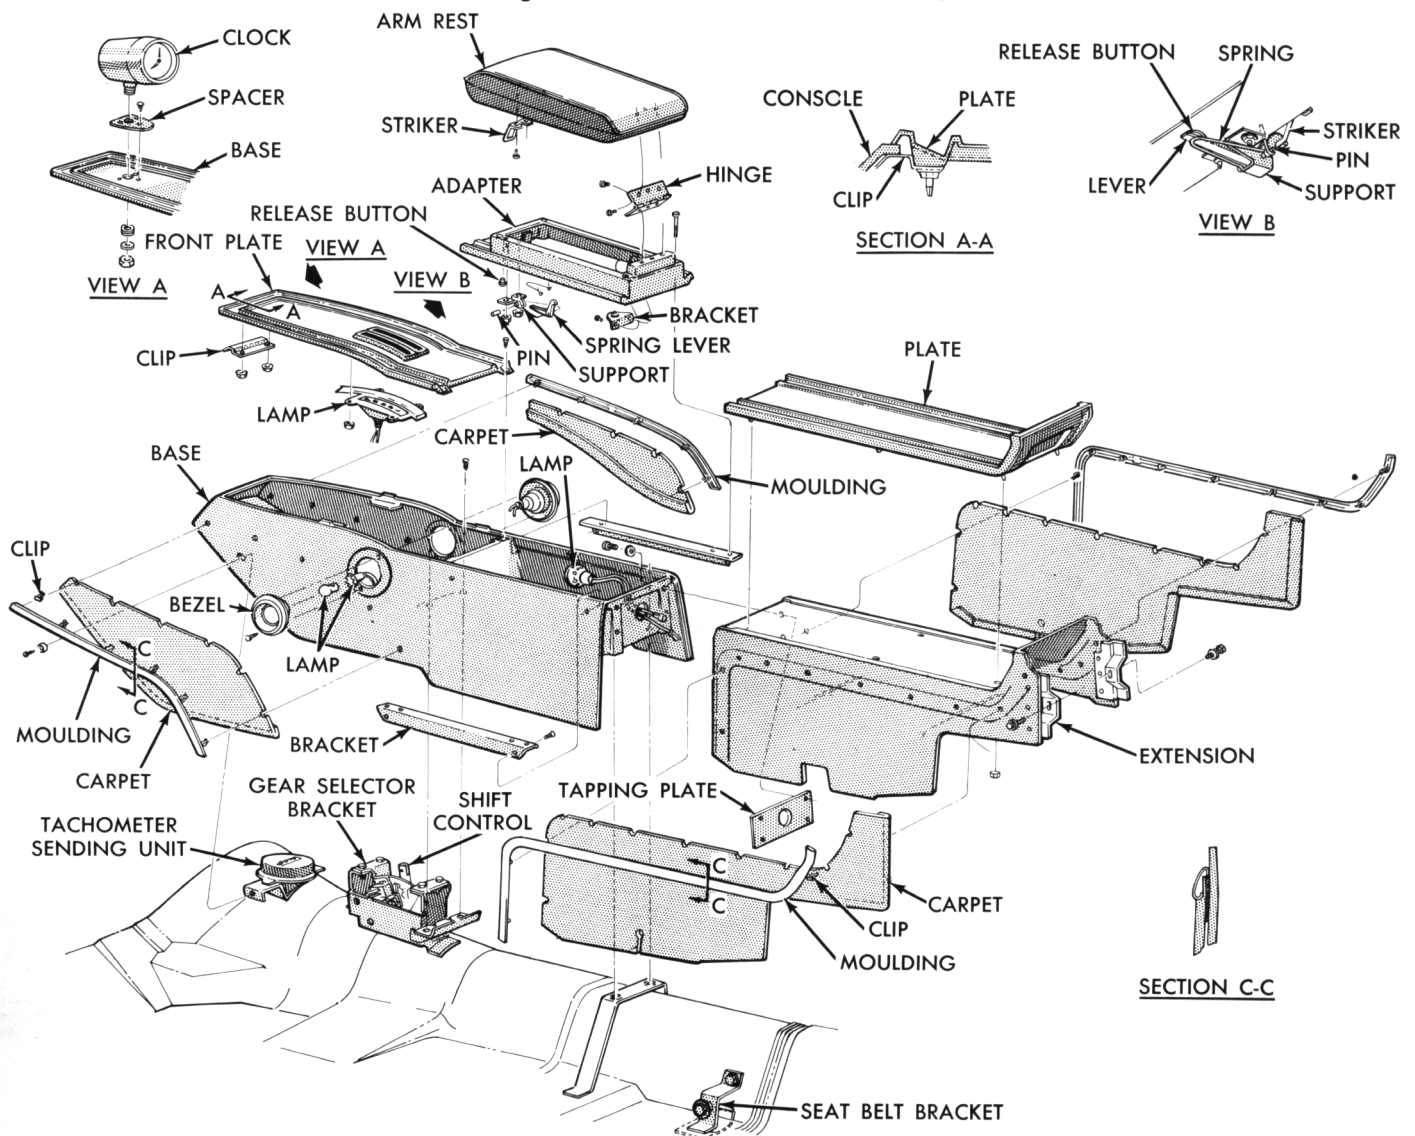
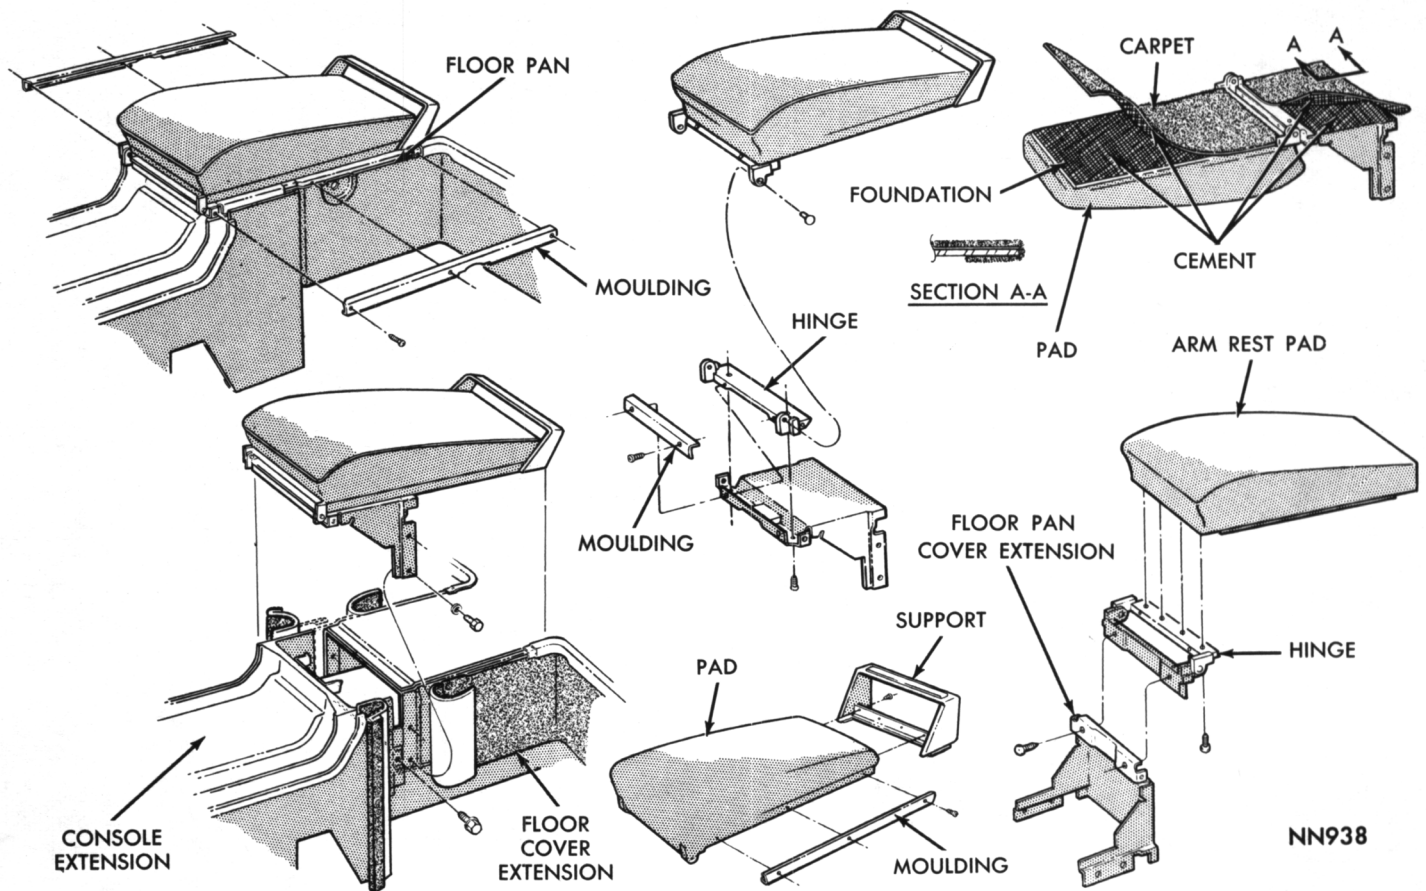
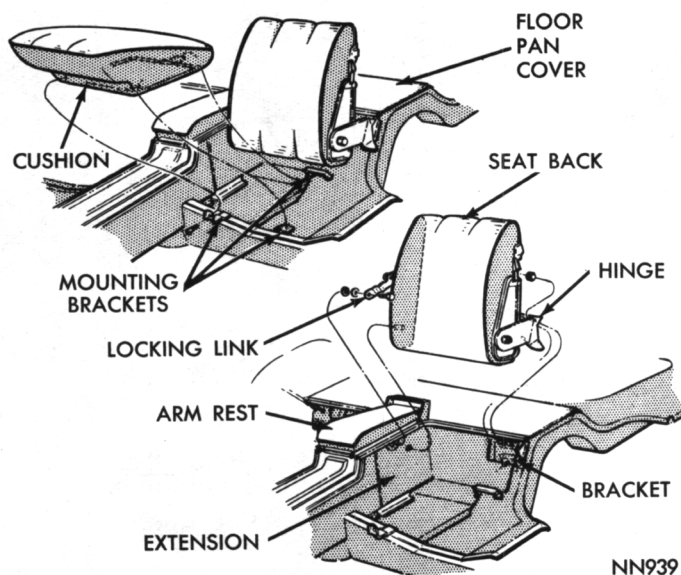

Fig. 21—Console Base and Extension
Fig. 22—Rear Arm Rest Assembly
Fig. 23—Rear Seat Attachment
The console base assembly (Fig. 21) is serviced in the same manner as 1966 Coronet Models. The extension assembly (Fig. 22) incorporates a folding arm rest to accomplish a flat center floor surface when the rear seat backs (Fig. 23) are also folded down. Refer to the seat section for rear seat back and cushion application to floor pan.
The rear seat cushions are attached to welded brackets on the rear floor pan with screws (Fig. 23).
- (1) Remove the rear seat cushion.
- (2) Remove bolt and washers attaching locking link to center floor pan cover extension panel (Figs. 23, 27 and 28)
- (3) Remove nuts attaching body half of hinge to the rear floor pan bracket.
- (4) Remove the seat back assembly.